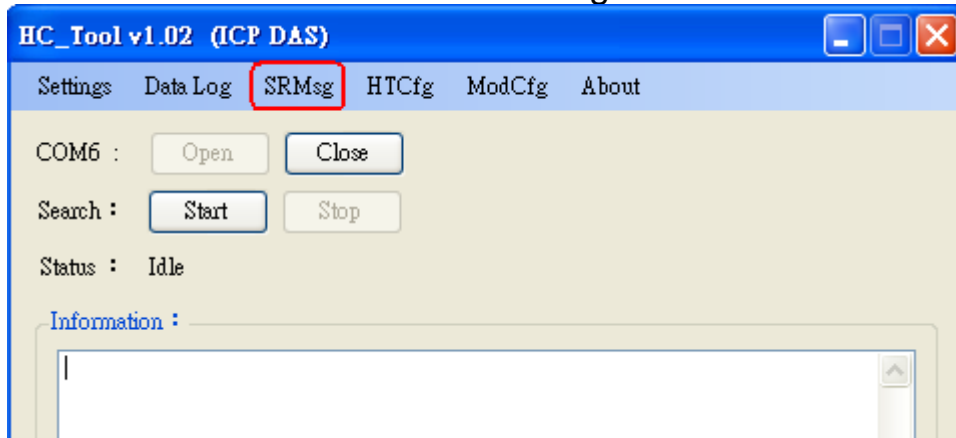

Figure 4-10: SRMsg Function
- (1) Click “**SRMsg**” menu and it will open the HART command function window for HART communication like Figure 4-10.